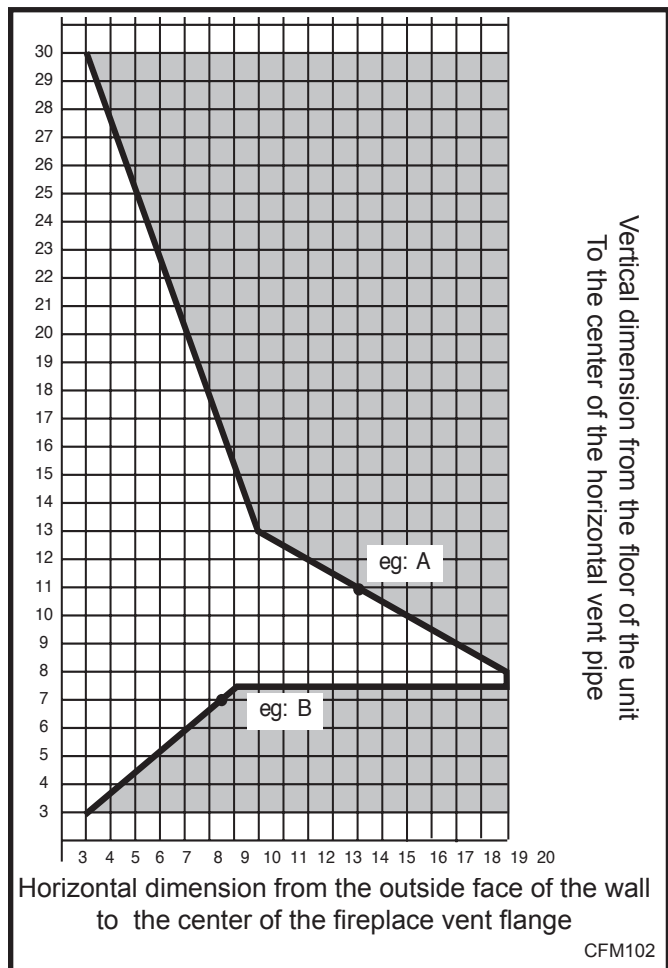

Fig. 15 Sidewall vent graph showing the relationship between vertical and horizontal dimensions for a Direct Vent flue system.
1. Determine the height of the center of the horizontal vent pipe exiting through the outer wall. Using this dimension on the Sidewall Vent Graph, (Fig. 15) locate the point intersecting with slanted graph line.